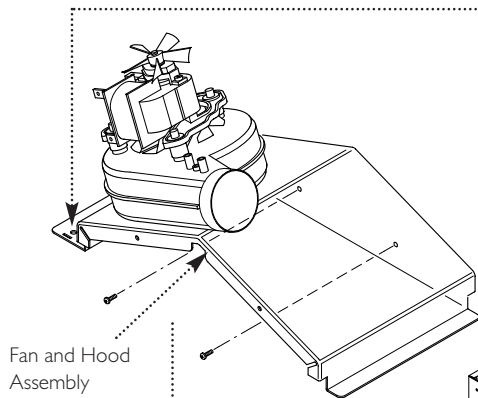

Fig. 56
13. Undo the screws securing the fan and hood to the appliance back panel. Draw the assembly forwards (Fig. 56).